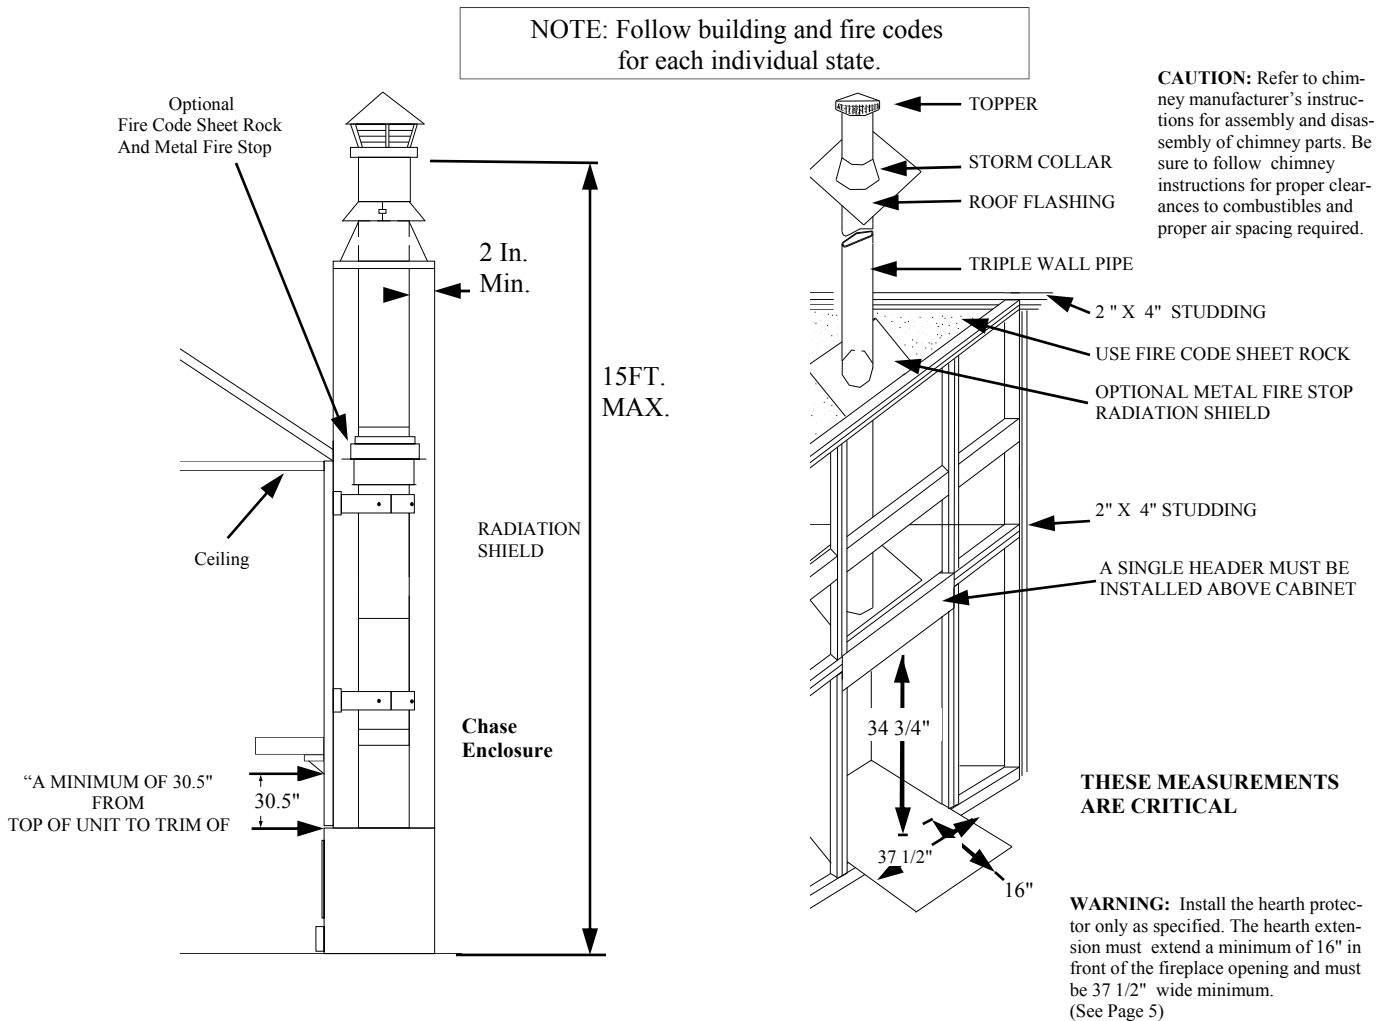

FIGURE 14 CHASE ENCLOSURE AND CORNER LOCATION FRAMING
3. Clearances from mantel, and trim to the top of unit must be a minimum 30.5" (See Page 16, Figure 14).
- b) 2" x4" framing above the unit must be turned flat. This allows proper clearance from framing to chimney (2" minimum). (See Page 16, Figure 14).